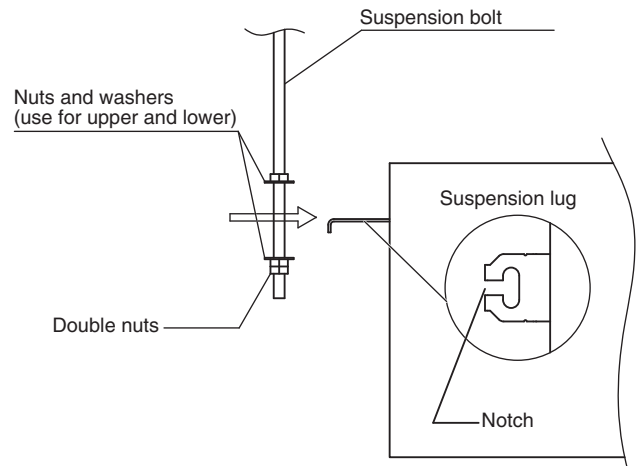

Fig. 3-5
- (3) Thread the 3 hexagonal nuts and 2 washers (field supply) onto each of the 4 suspension bolts (Figs. 3-5 and 3-6). Use 1 nut and 1 washer for the upper part, and 2 nuts and 1 washer for the lower part, so that the unit will not fall off the suspension lugs.